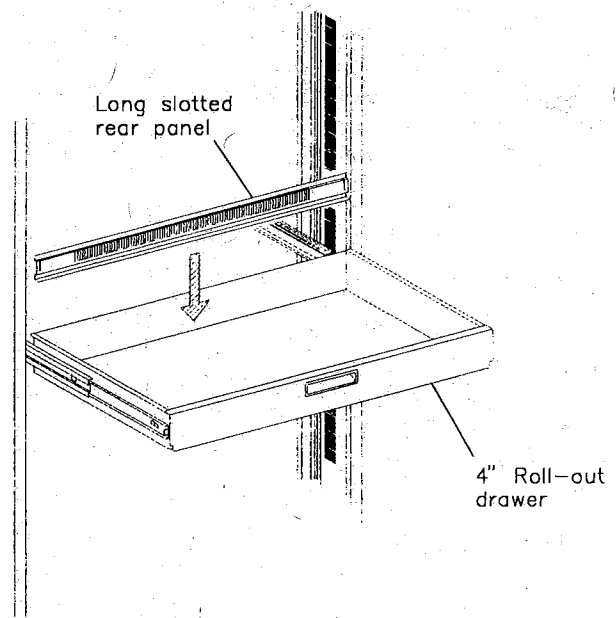

Figure 1. Rear panel installation
1. Pull the roll-out drawer all the way out (see Figure 1.) Place the long slotted rear panel to the rear of the drawer (no attachment is required).